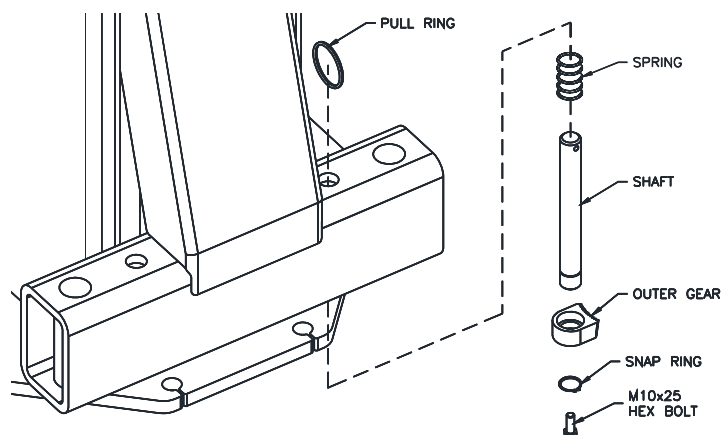

Fig. 19-Arm Restraint
- 57) Arm restraint assemblies should be installed on carriage as shown in **Fig. 19**.